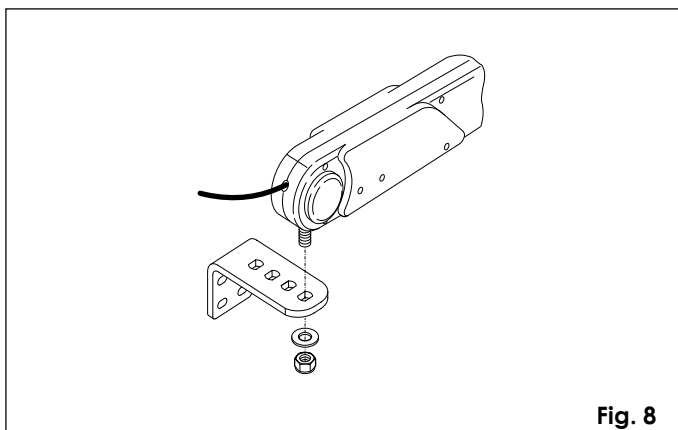

Fig. 8
- Secure the operator to the rear fitting, with the nut and washer (Fig.8), taking care to correctly fit the chamfered part of the pin in the hole of the rear fitting.